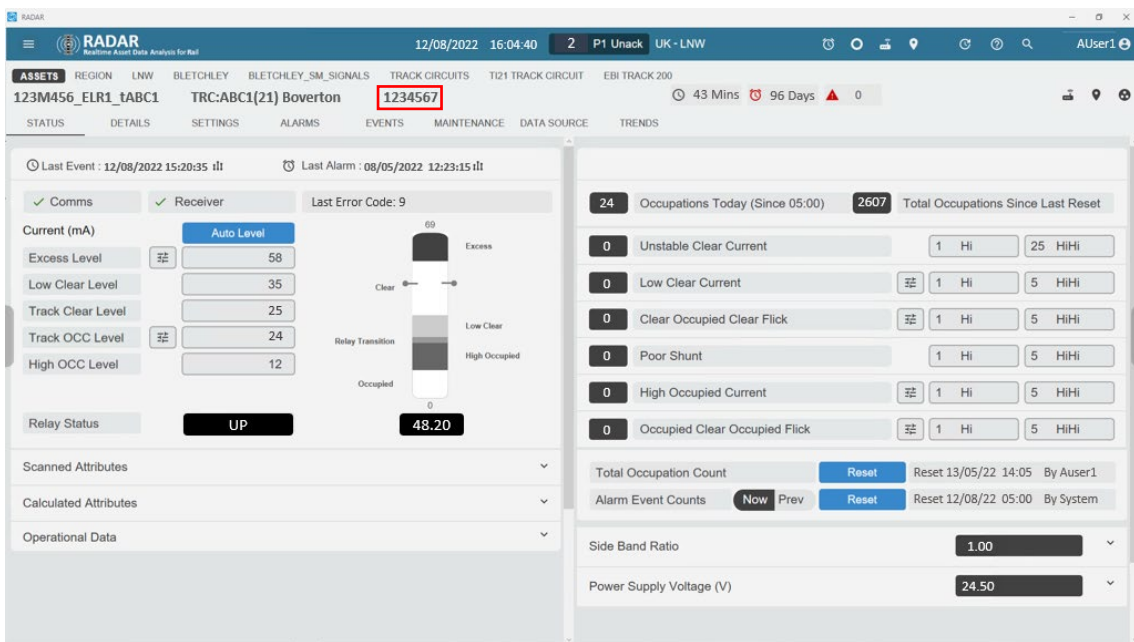

Figure 1 – Screen shot showing Ellipse number highlighted
- 8.2 Check the identity of the track circuit to be reviewed (confirm using Ellipse number) see Figure 1.